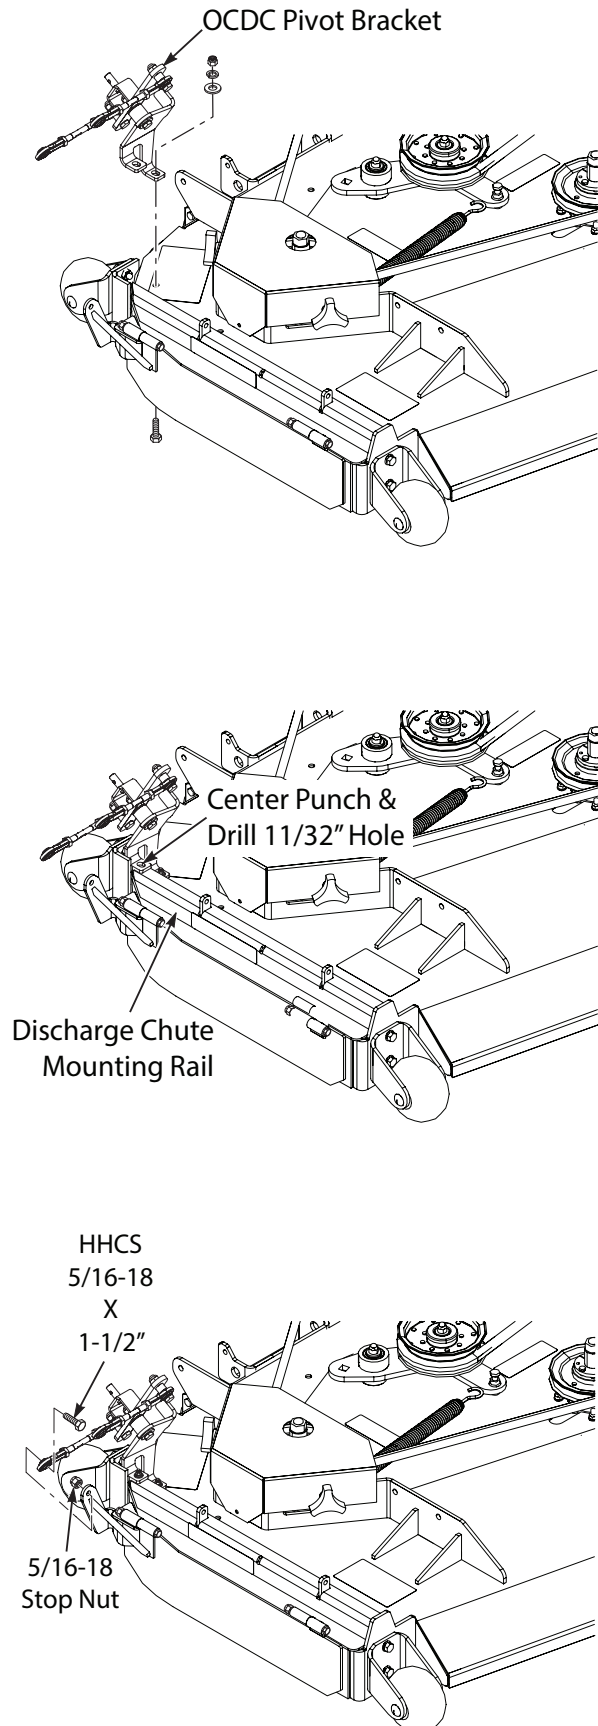

Figure 3-6. STC/STCII/SCZ-48V Pivot Bracket Install
19. Install the ODCD pivot bracket to the cutter deck. Secure using one (1) 5/16-18 x 1" bolt, one (1) 5/16" flatwashers, one (1) 5/16" lockwashers and one (1) 5/16-18 elastic stop nuts. Do not tighten hardware at this time. See Figure 3-6.
20. Using the ODCD pivot bracket as a guide, locate and drill the required hole in the discharge chute mounting rail using an 11/32" drill bit. See Figure 3-6.
21. Secure the ODCD pivot bracket to the discharge chute mounting rail using one (1) 5/16-18 x 1" bolt, one (1) 5/16" flatwasher, one (1) 5/16" lockwasher and one (1) 5/16-18 elastic stop nut. See Figure 3-6.